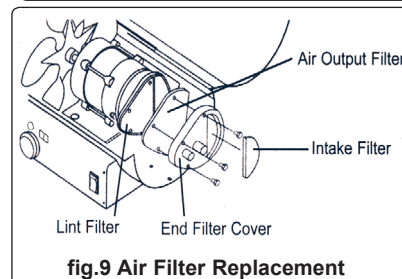

fig.9 Air Filter Replacement
6.4 Air filter. The cast alloy compressor unit is protected by a three stage filter system (fig.9). The intake filter should be cleaned every 500 hours or more regularly if the appliance is used in a dusty environment.